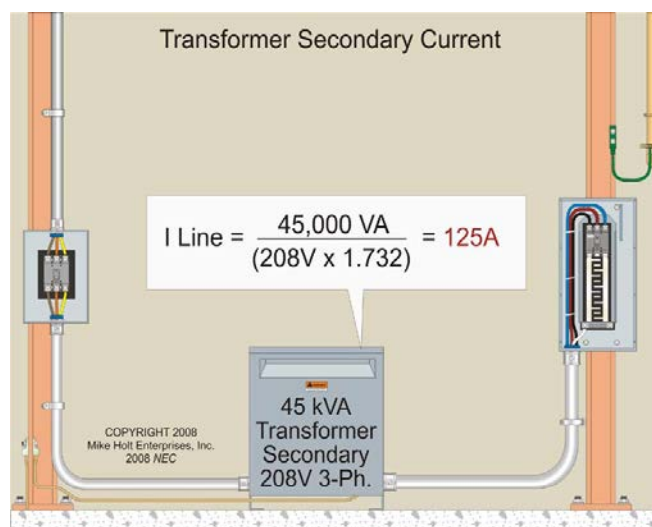

Figure 12-49
Step 1: Determine the secondary current rating. **Figure 12-49**